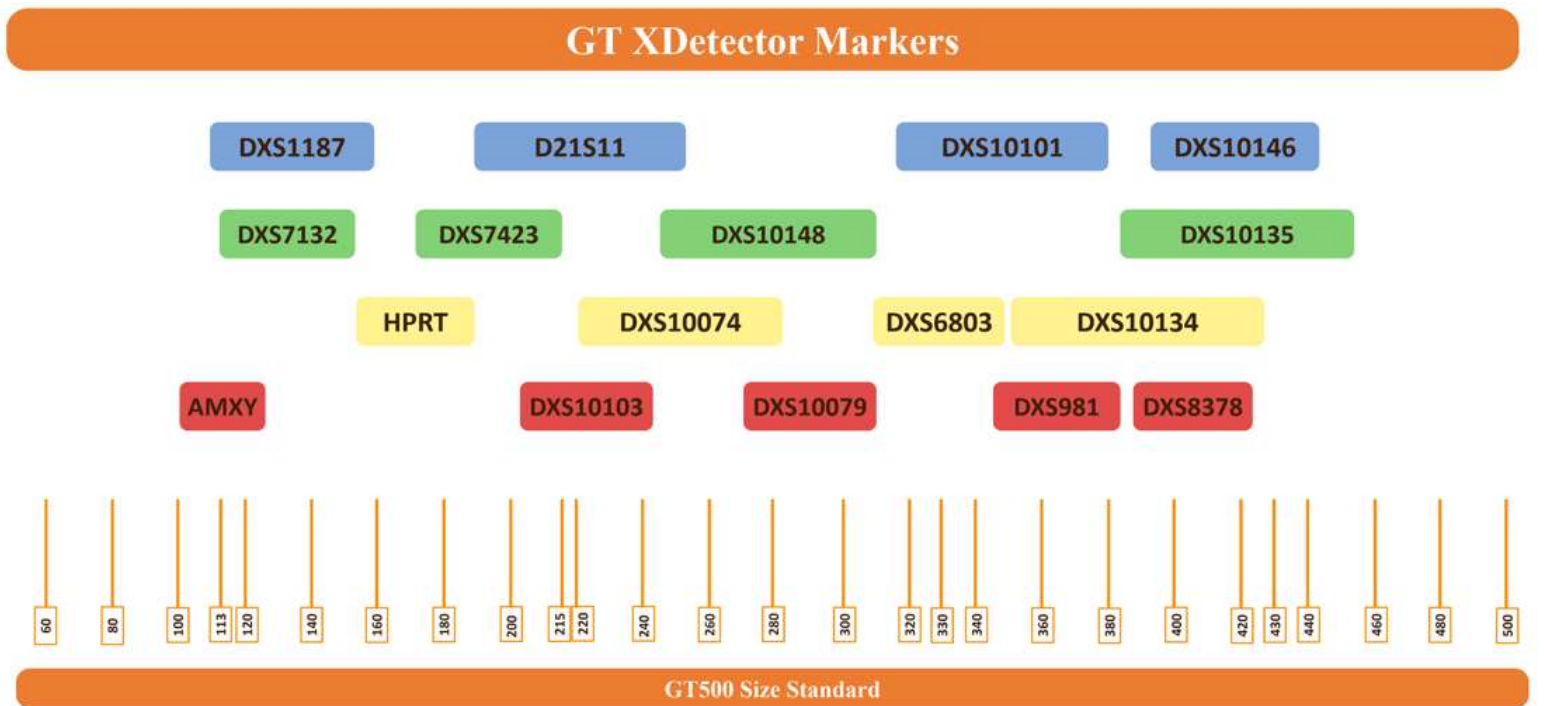

Figure 2. Diagram shows distribution and placement of GT XDetector Kit markers with GT500 Size Standard.
- The Dashboard screen (Figure 2) is launched when 3500 Data Collection Software is opened. Click the Refresh button to make sure that all the information on the Dashboard is up-to-date. Make sure that the Maintenance and Consumables notifications are acceptable.